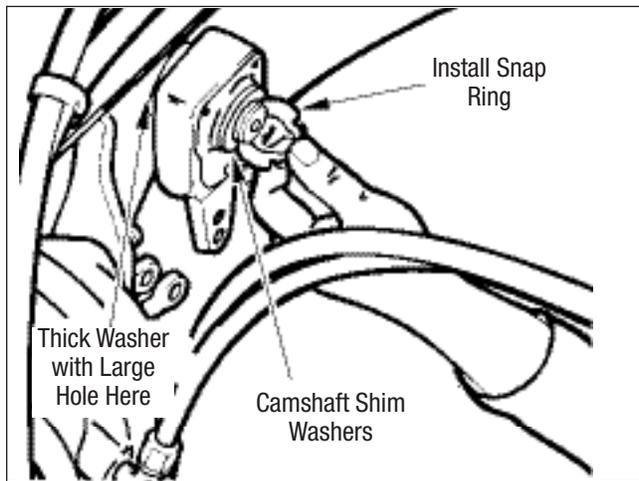

Figure 9 - Shim Washer and Snap Ring Installation
2. Install the brake adjuster inner washer on the camshaft. The inner washer is identified by its 0.060" thickness and larger hole (see *Figure 9*).
5. Install the camshaft shim washers and snap ring (see *Figure 9*). Check and adjust the camshaft axial play (see *Step 6*).